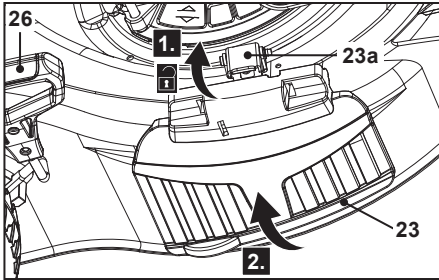

Fig. 21
1. Set the cutting height adjustment lever (26) higher than the second lowest position.
2. Turn the locking buckle (23a) towards the engine and hold to disengage it (Fig. 21, step 1).
3. Open the side deflector guard (23) and hold it in position (Fig. 21, step 2).